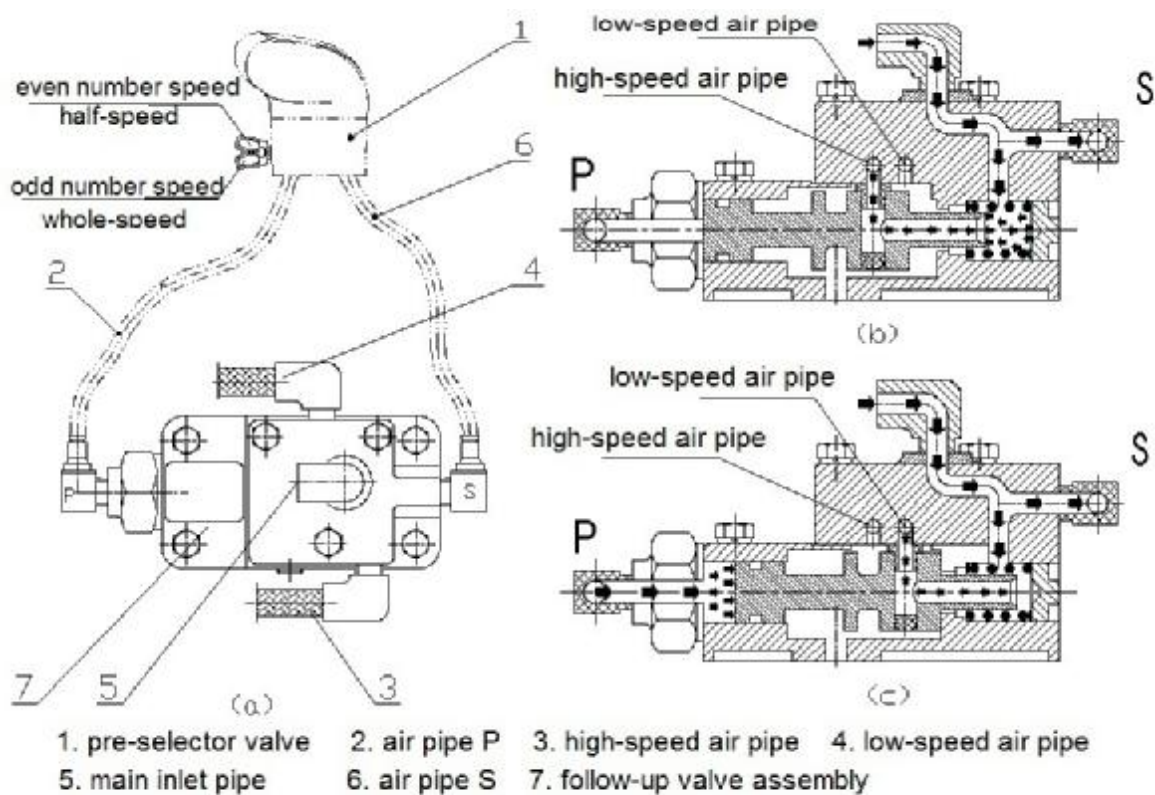

Figure 14 Working theory of single-H valve
2) Working theory of single-H valve (also: follow-up valve): see figure 14:
When the clutch has been completely released, continue to tread the clutch pedal, the control valve under the clutch pedal will be open, then the compressed air (about 2.8-3.2 Pa) from the transmission air filtrating regulator will enter into main air pipe 5, see figure 14 (a), then from main air pipe 5 enters into follow-up valve assembly 7. If the odd and even shift switch of pre-selector 1 is at even number speed region, air pipe S will get through with air pipe 5 (see figure 14 (b)), and the compressed air will push the piston move to the right so that main air pipe 5 connects with even number speed (that is half-speed) air pipe 3 which is connecting with the shifting cylinder in the front auxiliary case, so the synchronizer in the auxiliary case of the transmission will be at even number speed region position. If the odd and even shift switch of pre-selector 1 is at odd number speed region, air pipe S6 will get through with air pipe P2, see figure 14 (c), and the compressed air will push the piston move to the left so that main air pipe 5 connects with odd number speed (that is half-speed) air pipe 4 which is connecting with the cylinder in the front auxiliary case, so the synchronizer in the auxiliary case of the transmission will be at odd number speed region position.